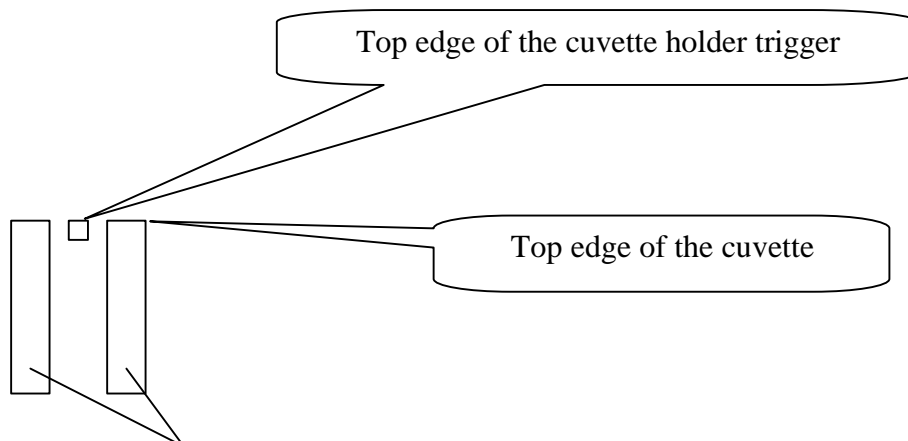

Fig. 8 Reaction cuvettes
2. Rotate the reaction plate in such a manner as to position the trigger between two cuvettes (Fig. 8).
4. Position the trigger in such a manner that the top edge is at the same height as the top edge of the cuvette. Tighten the cuvette holder trigger fastening screw (Fig. 8).